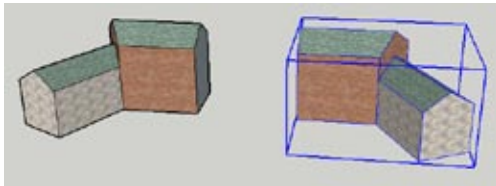

Figure 7-34
3. Keep the copied component selected and activate the Scale tool. Turn the copy inside out by dragging a center-side handle through the component, stopping when the Scale value is -1 (Figure 7-34).